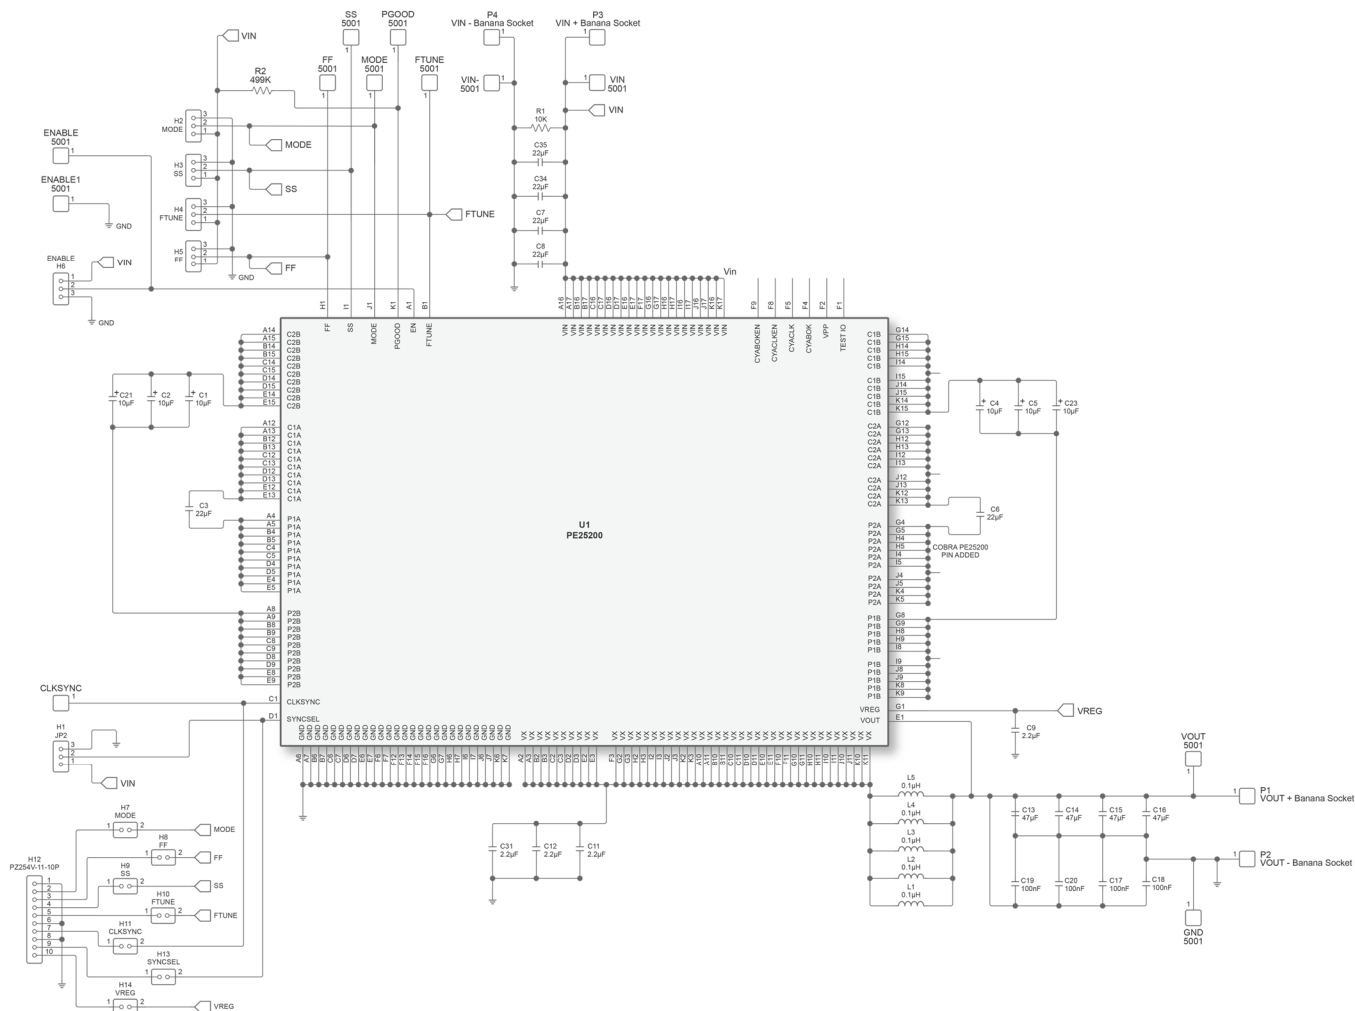

Figure 29. Device Board (EVK) Application Schematic
- Figure 29 shows the applications board schematic.